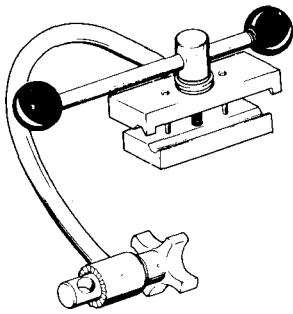

Fig. 9—4035A Strand Clamp.
c. The 4035A Aerial Strand Clamp is designed to hold a 4041P Splicing Head in aerial splicing applications. The clamp may be used on regular or self-supporting type strand applications. See Figure 9.